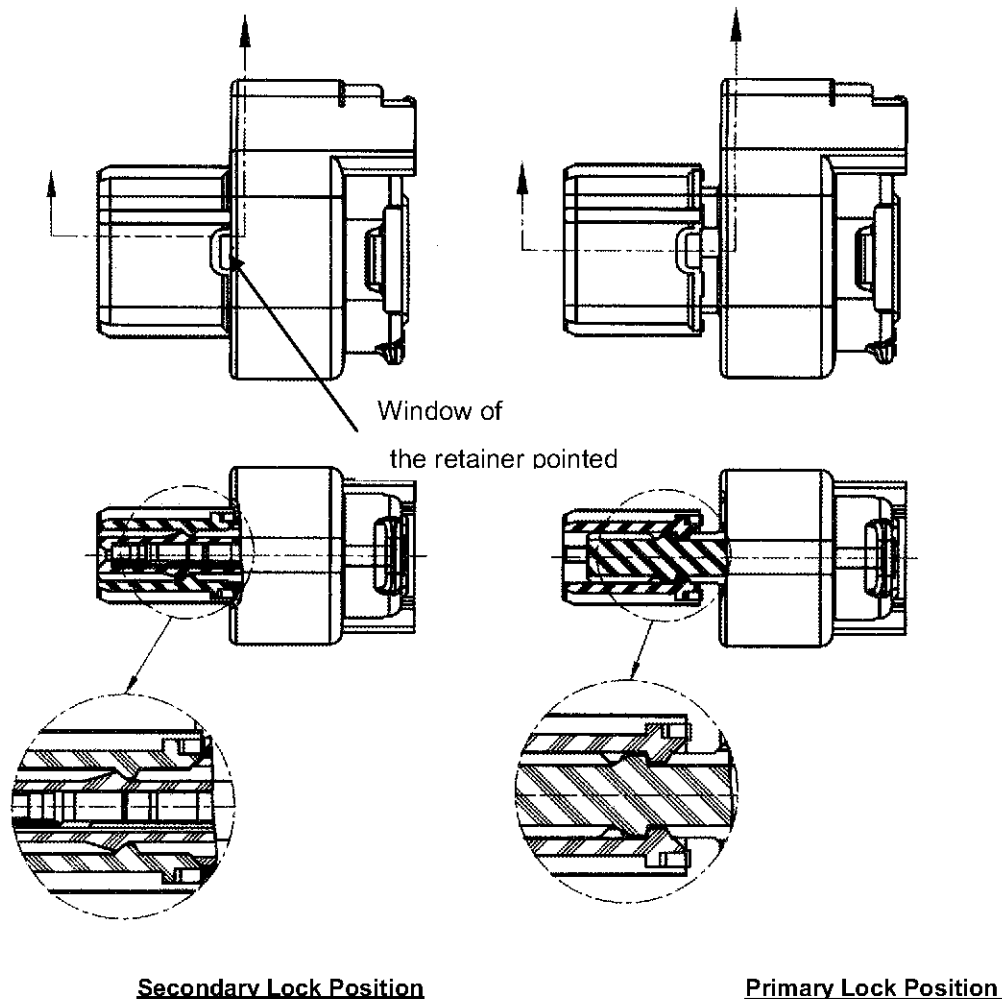

Fig.10
- ※ 1) Put tip of the screwdriver on and release Secondary Lock on each side of retainer then move it to "Primary Lock Position". See Fig.10.
- (2) Draw out the retainer until the "Primary Lock Position" (about 2mm). And please confirm that all latches shall be "Primary Lock Position".